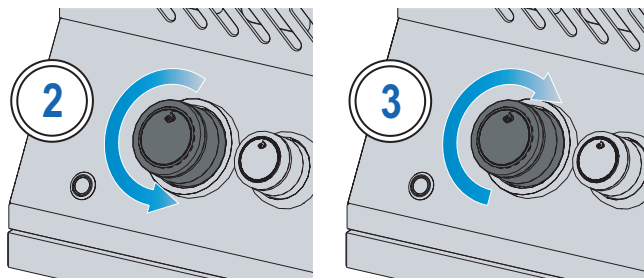

Fig. 1
4. If the pilot and burner will not light in 5 seconds – turn the control knob clockwise to the OFF position. Wait 5 minutes for gas to dissipate. Repeat steps 2 and 3, or light with a match. (Fig. 1) .
5. If the burner will not light – turn burner control knob clockwise to the OFF position. Wait 5 minutes. Repeat step 3 and 4. (Fig. 1)